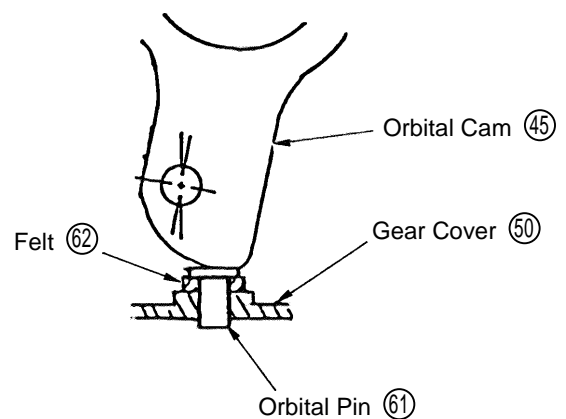

Fig. 16
- (4) During reassembly, be very careful not to forget to install the Felt ⑥② at the lower portion of the Orbital Cam ④⑤, as shown in Fig. 16.
- (5) Grease: